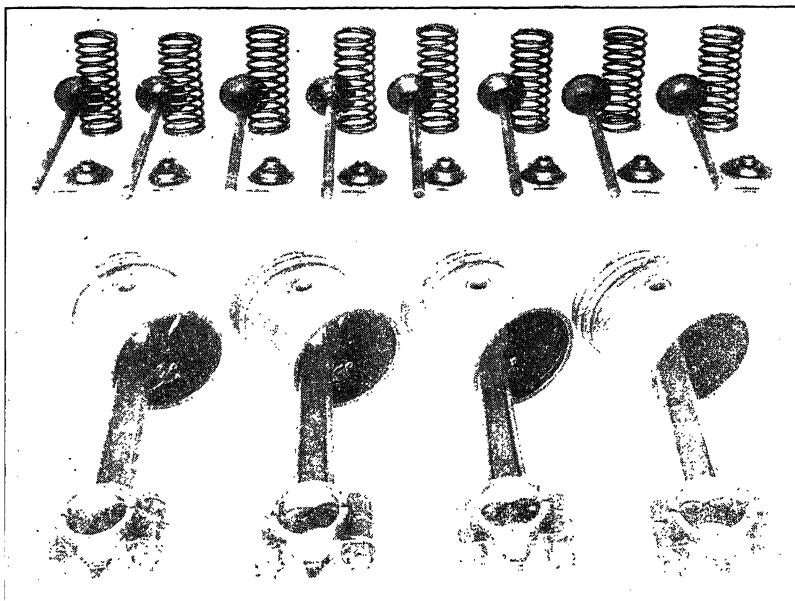

Fig. 14. Clean Up the Engine Parts and Lay Them Out in Order for Inspection
**Piston Rings.** Piston rings are very seldom re-used unless the job has not been in service for more than 5,000 miles. If down for other work, it is a good plan to replace the old rings with new ones. Always maintain rings which are to be re-used in the proper order, Fig. 14, so that they may be returned to the engine in the original cylinder and in the original groove of the piston.